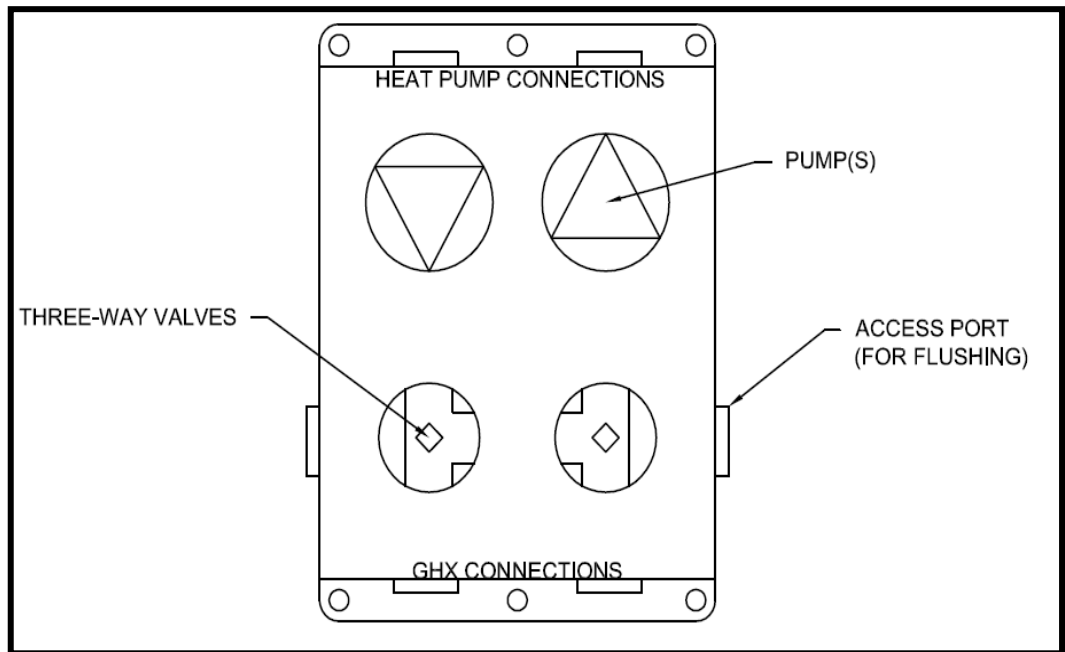

Figure 2: Typical pump module layout
- 2.1.2 The pump module should have pump(s), supply and return distribution pipe (ground loop) connections, supply and return heat pump connections, and two access ports for flushing and purging. The pump module shall also have two three-way valves to allow flow between the distribution piping and the heat pump, the distribution piping and the access ports, the heat pump and the access ports. See Figure 2.